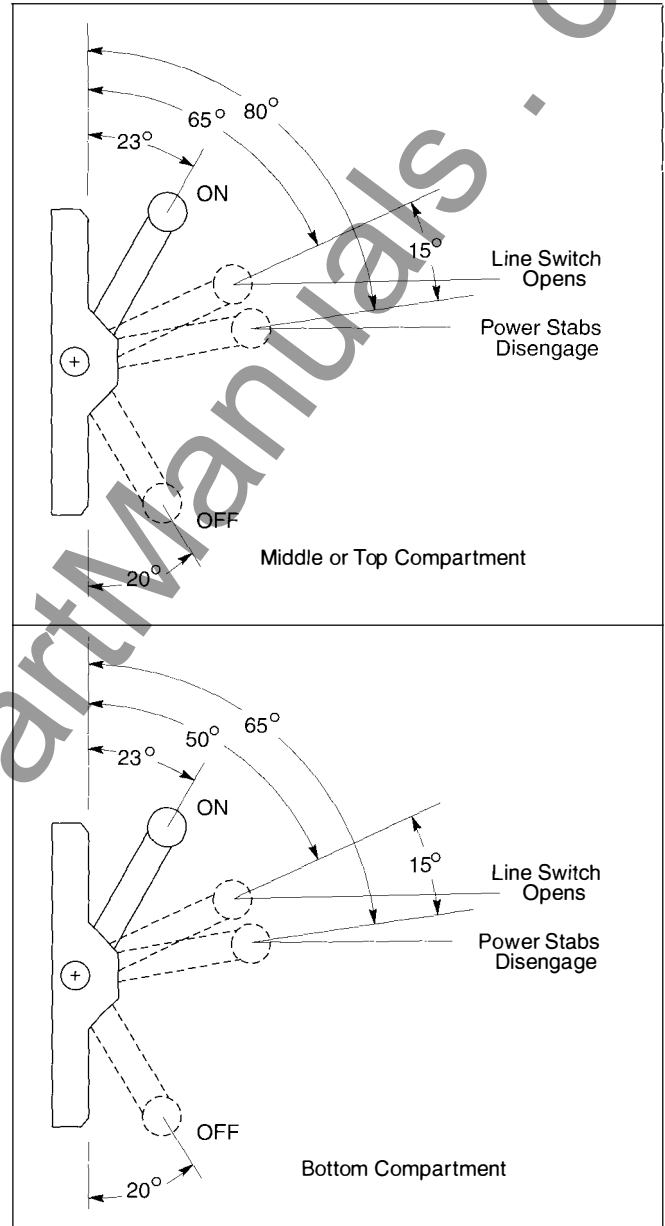

Figure 39. Racking Mechanism Adjustment
- 4 Slowly rack the contactor out by moving the handle toward the OFF position until the LSI opens as indicated by the ohmmeter. The handle position should be as indicated in **Figure 39**. Continue moving the handle toward OFF and observe the point at which the power disconnect finger assembly disengages from the stab terminal. This should occur in 15° $\pm 5^\circ$ handle travel past the point at which the LSI opens.